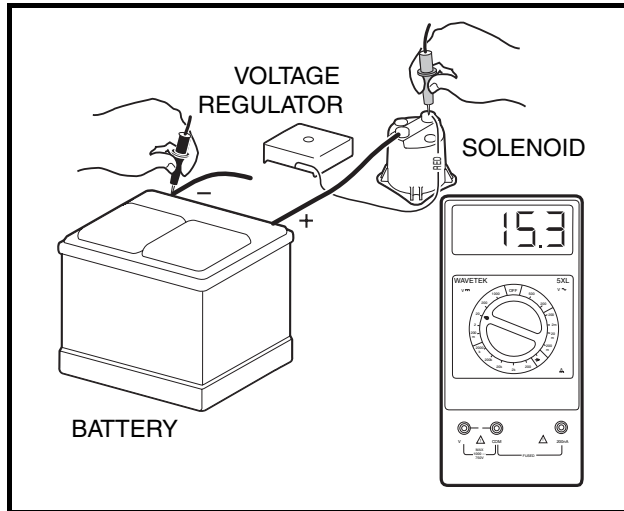

Figure 11-20 Test Voltage Regulator
- Turn the key switch to the OFF position, killing the engine. Using a multimeter set to 20 volts DC, place the red (+) probe on the large post of the solenoid with the red wire from the voltage regulator attached. Place the black (-) probe on the negative (-) battery post (**Figure 11-20, Page 11-21**). With the Forward/Reverse handle in the NEUTRAL position and the wheels chocked, turn the key switch to the START position to start the engine. Press the accelerator to run the engine at full governed speed. If the reading is between 14.7 and 15.3 volts, the regulator is good. If the reading is lower than 14.7 volts but rising steadily, check battery condition. **See Hydrometer Test on page 11-9**. If the reading is lower than 14.7 volts and not rising, and the starter/generator is good; or if the reading is over 15.3 volts and continues to rise, replace voltage regulator. **See Voltage Regulator Removal, Section 12, Page 12-11**.